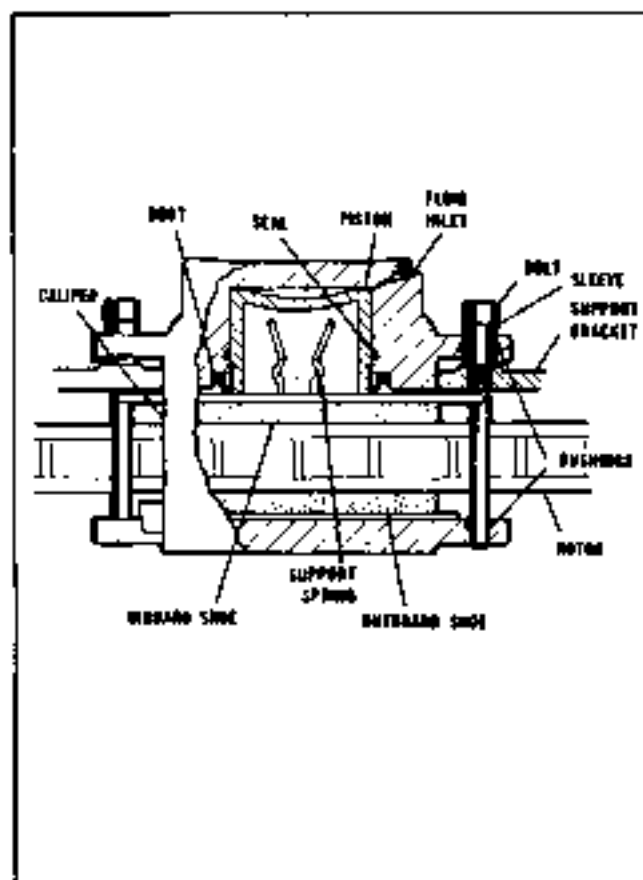

Fig. 5E-1 Disc Brake Assembly
7. Using hand pressure, push the sleeves from the inboard ears of the caliper. Next, remove the rubber bushings from the grooves in each of the four caliper ears (Fig. 5E-5). Discard these parts, new ones are provided with new linings.
Examine the piston boot for evidence of fluid leakage. If leakage is noted, the caliper should be overhauled. (See Caliper - Overhaul.) Wipe the inside of the caliper clean, including the exterior of the dust boot. Check the boot for cuts, cracks or other damage. Make sure that the boot is properly engaged in the groove in the piston and also in the caliper counter-bore (Fig. 5E-6).
1. Using a high quality silicon lubricant, lubricate the new sleeves on all surfaces. Lubricate the new rubber bushings, bushing grooves and the small ends of mounting bolts (Fig. 5E-7). Install rubber bushings in all four caliper ears.